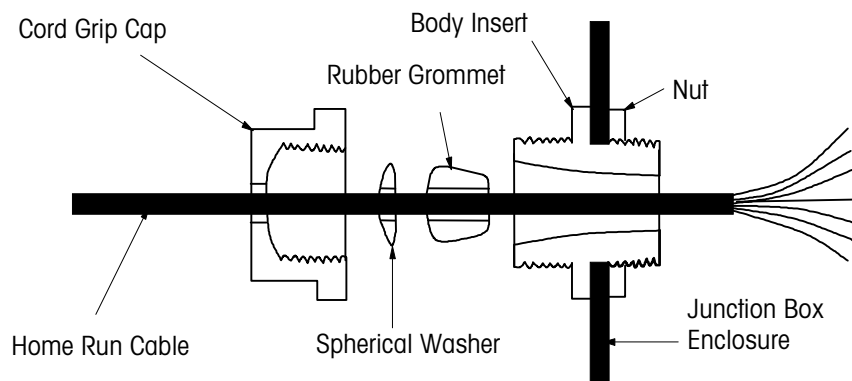

Figure 3-5: Cord Connector Details
9. Reinstall the junction box lid. Make sure that the rubber gasket is clean and correctly positioned. Tighten all screws and make sure all cord grip caps are secure (see Figure 3-5).